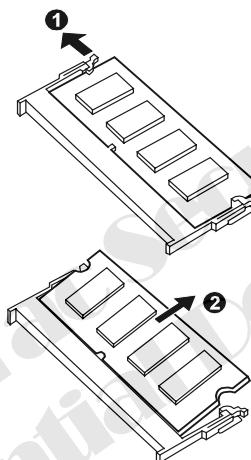

Figure 2-16 Remove the SO-DIMM
3. Pull the retaining clips outwards (①) and remove the SO-DIMM (②). (Figure 2-16)